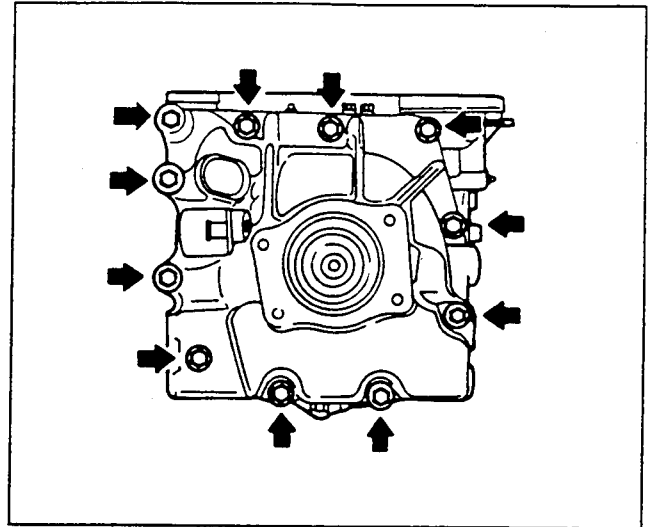

Figure 39. Rear Cover Fitting Bolt Removal
4. Remove the rear cover fitting bolts (figure 39).